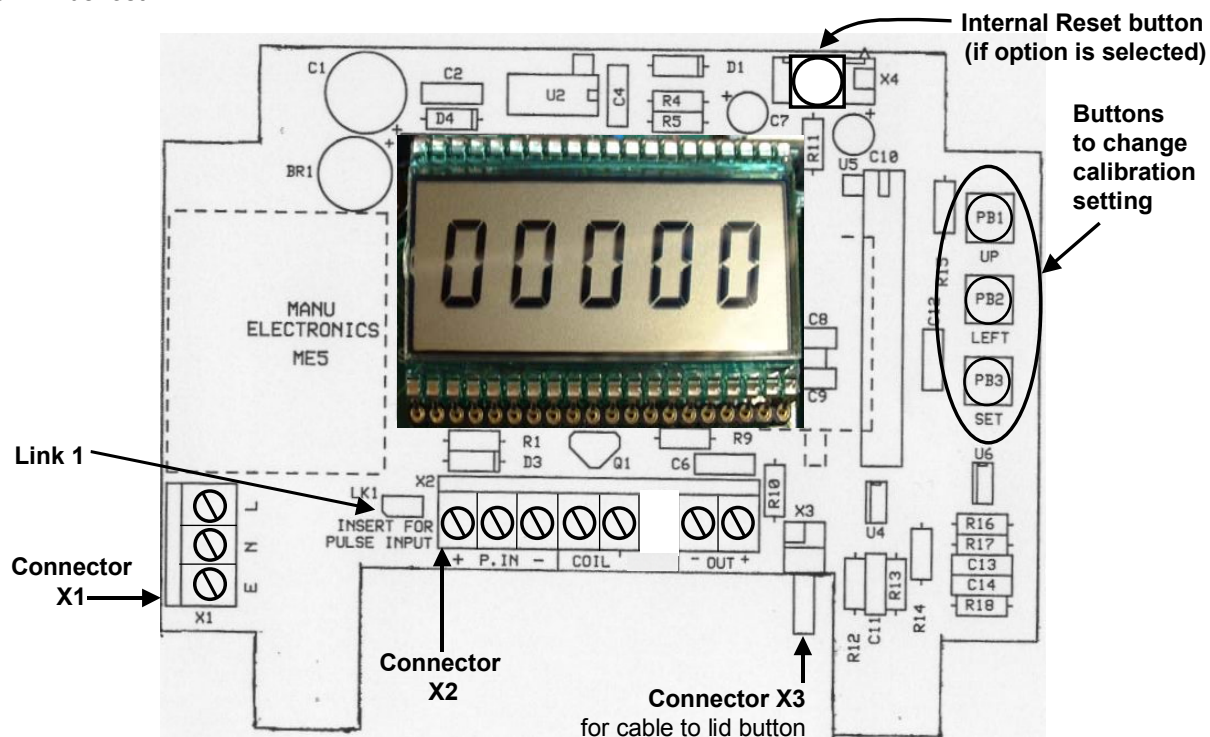
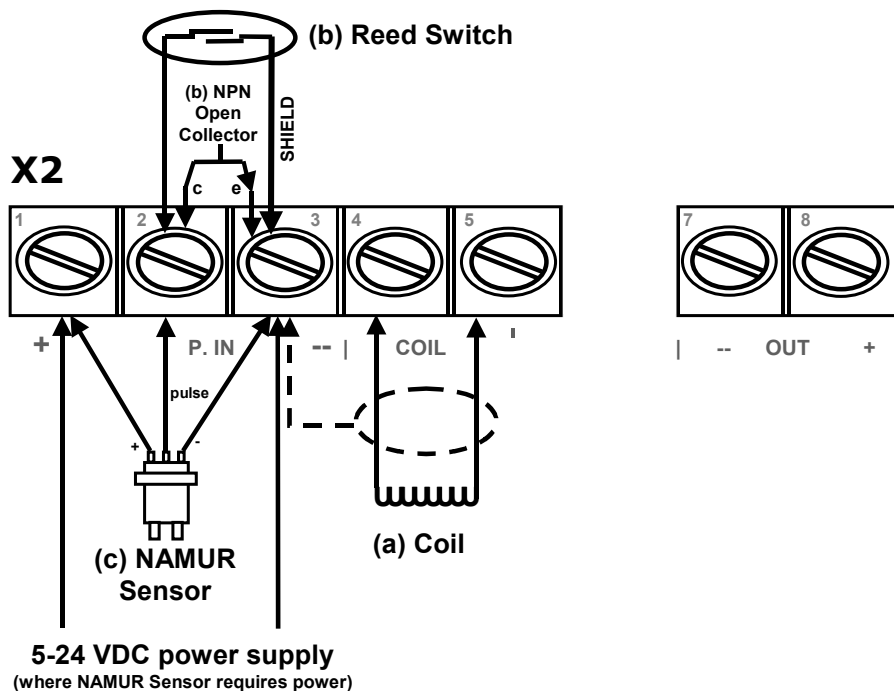

Figure 2. ME5-T Internal PCB - Connectors and Calibration Buttons.
Figure 5. Connection of Coil, Reed or Pulse/NAMUR Inputs via Connector X2.
| Figure 2. | ME5-T Internal PCB - Connectors and Calibration Buttons. ....         | 4 |
Optionally (-IR version, where lid button is marked "WAKE"), the total is reset via an internal pushbutton (see Figure 2 on page 4), and the lid button simply wakes the display if it has gone into sleep mode.
- the button on the lid (Figure 1-h on page 3) is pressed. Note: any total will not be reset by the button press that wakes up the display. Once the display is awake and displaying a value, then any subsequent button press will reset the displayed total. (Optionally, in the -IR version, the total is reset via an internal pushbutton as shown in Figure 2 below, and the lid button simply wakes the display if it has gone into sleep mode).
Power supply connections are made by running the power cable through the cable entries of the enclosure, to the screw terminal connectors located on the Printed Circuit Board (PCB) inside the ME5-T (see Figure 2 below). The PCB is accessible by removing the four Stainless Steel screws and the front panel from the enclosure.
The ME5-T will accept a coil input from a flowmeter, through the cable entry to the internal PCB Connector X2 as shown in Figure 5-a below. Note the connection of the shielded cable.
The ME5-T will accept a Reed Switch input, or an NPN Open Collector input, from a flowmeter through the cable entry to the internal PCB Connector X2 as shown in Figure 5-b below.
The ME5-T will accept a Pulse/NAMUR input from a flowmeter, through the cable entry to the internal PCB Connector X2 as shown in Figure 5-c below. **Note:** Link 1 (see Figure 2) is inserted for a pulse/NAMUR input.
- a 5-24VDC supply to internal PCB Connector X2, as shown in **Figure 5** below; or
- firstly removing the lid of the ME5-T to access the Calibration Buttons on the internal PCB (see Figure 2 on page 4); then
The Calibration Buttons 'UP', 'LEFT' and 'SET' are on the internal PCB board (see Figure 2, page 4).
| Distance between sensor and display is over 100 metres.              | <ul style="list-style-type: none"> <li>• Insert Link 1 (see Figure 2 on page 4) to increase the current flow to the sensor, regardless of the input type used.</li> </ul>                                                                                                                                                                                                                                                                                                                                                                    |